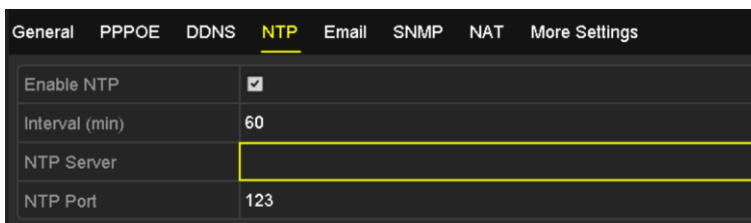

Figure 11. 12 NTP Settings Interface
2. Select the **NTP** tab to enter the NTP Settings interface, as shown in Figure 11. 12.